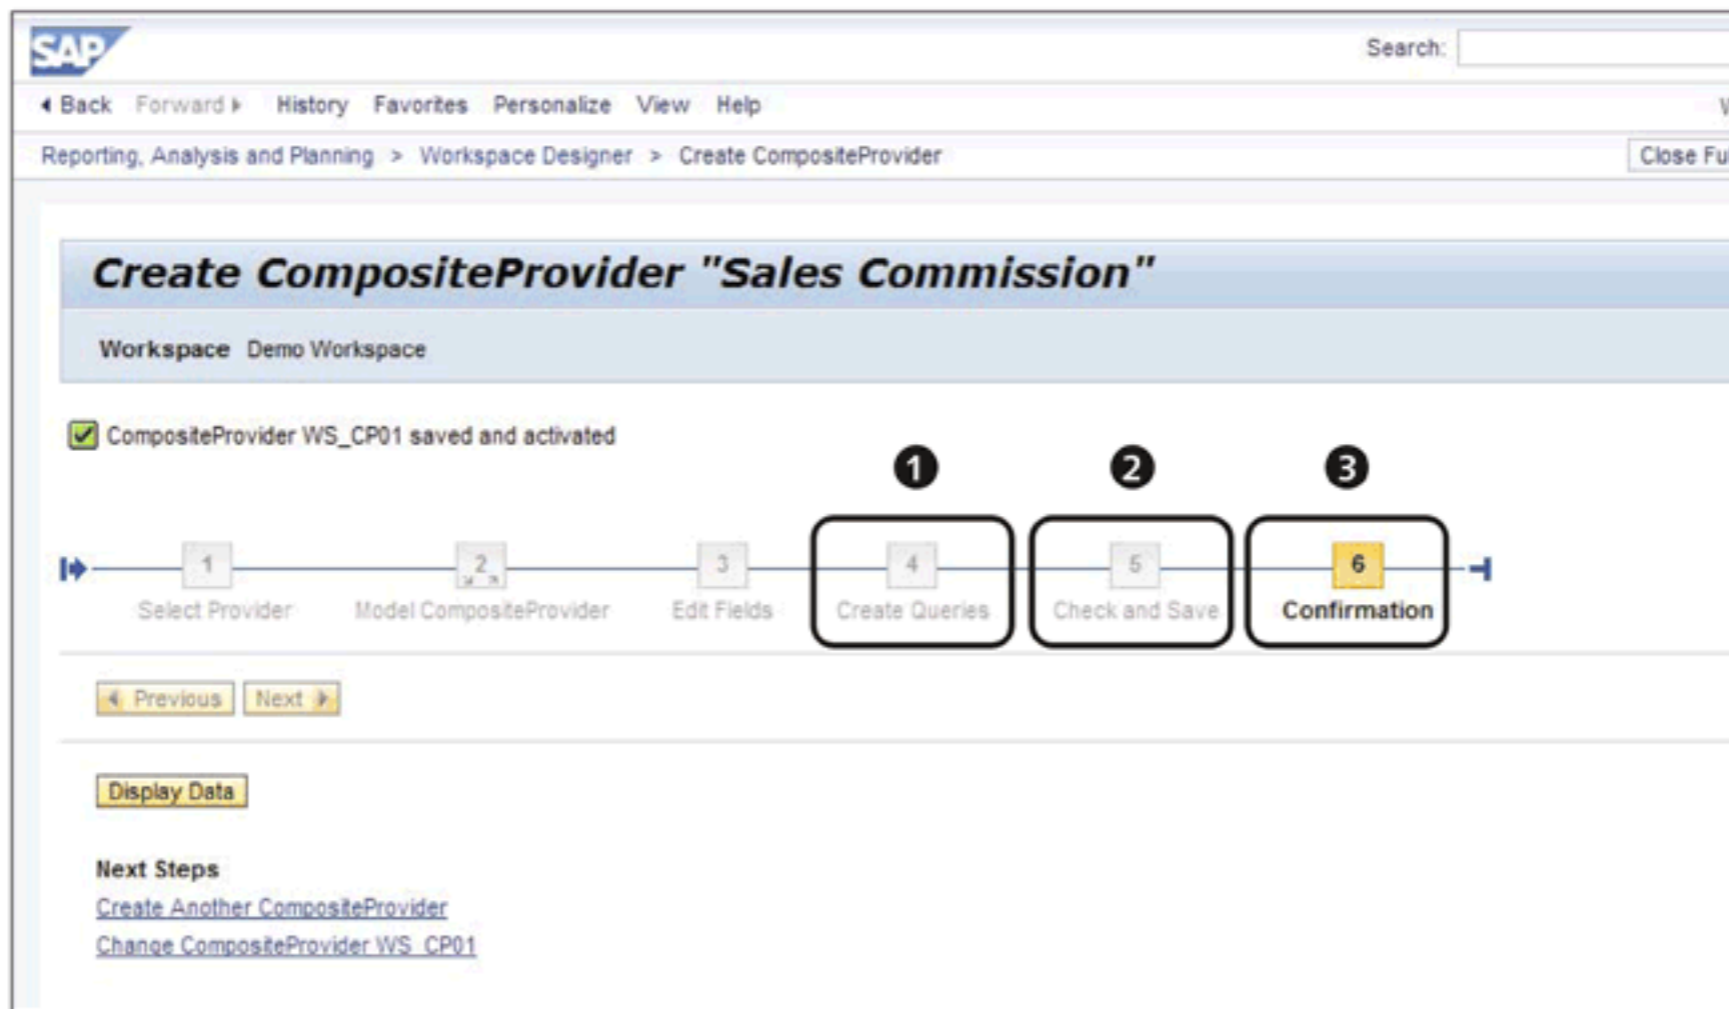
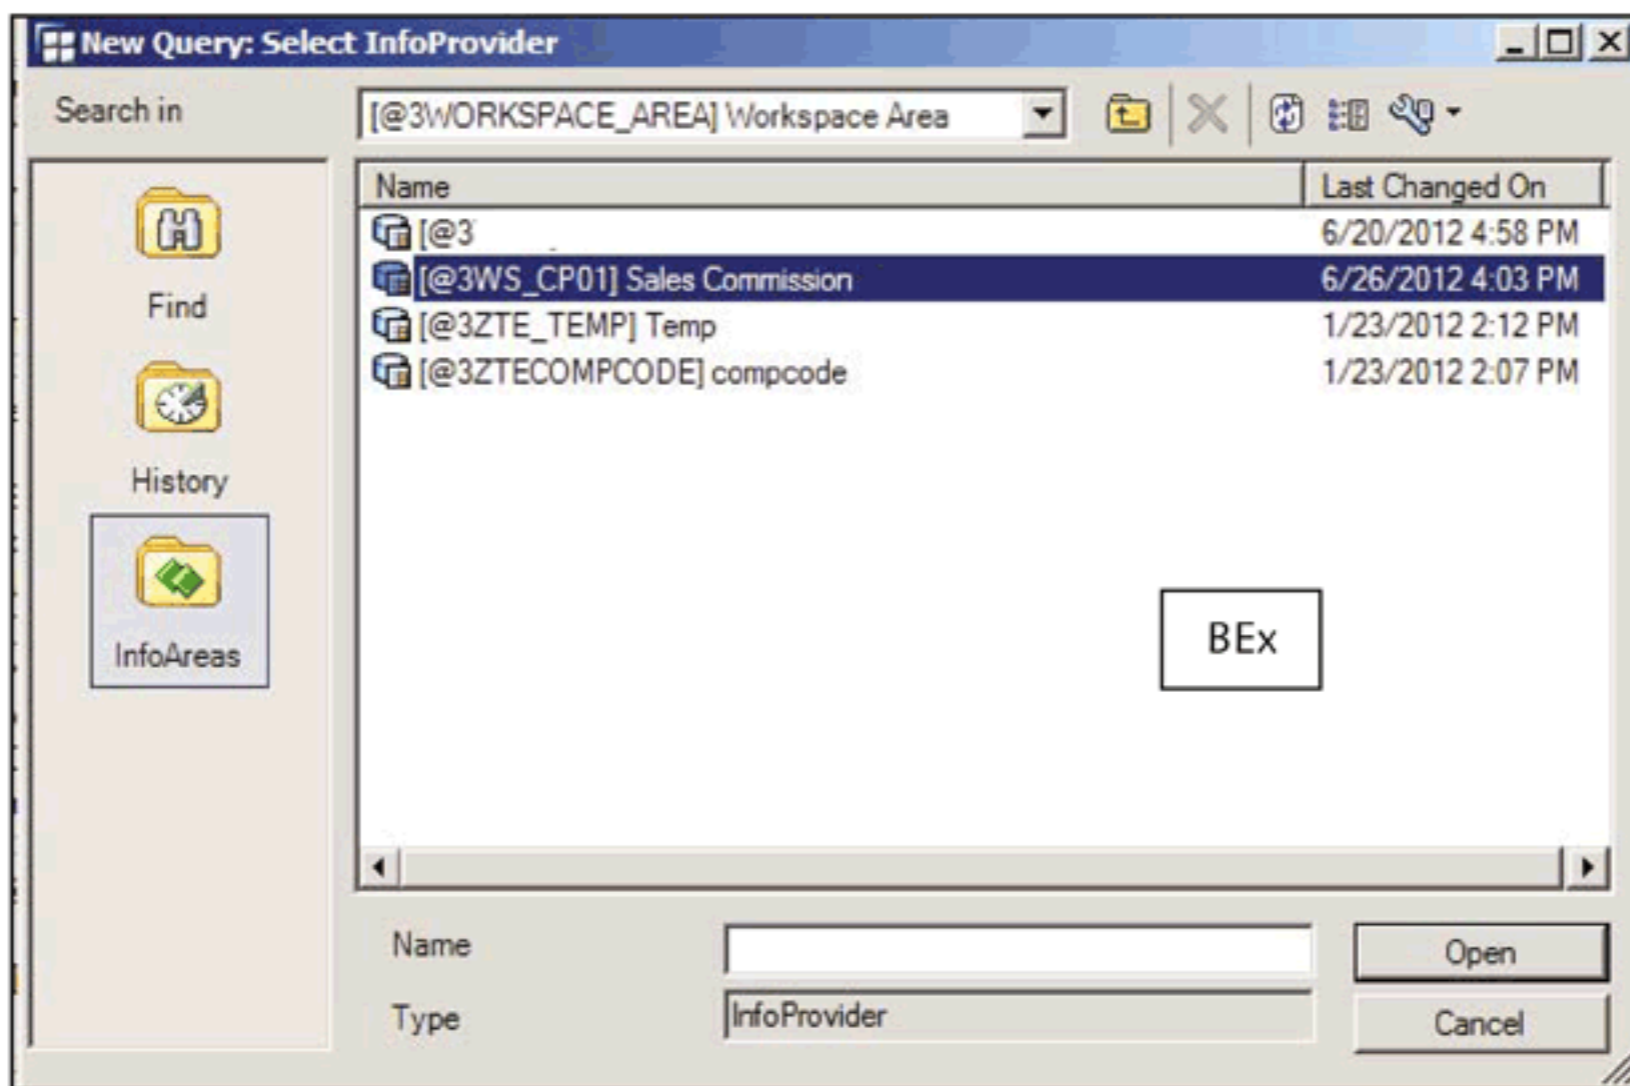
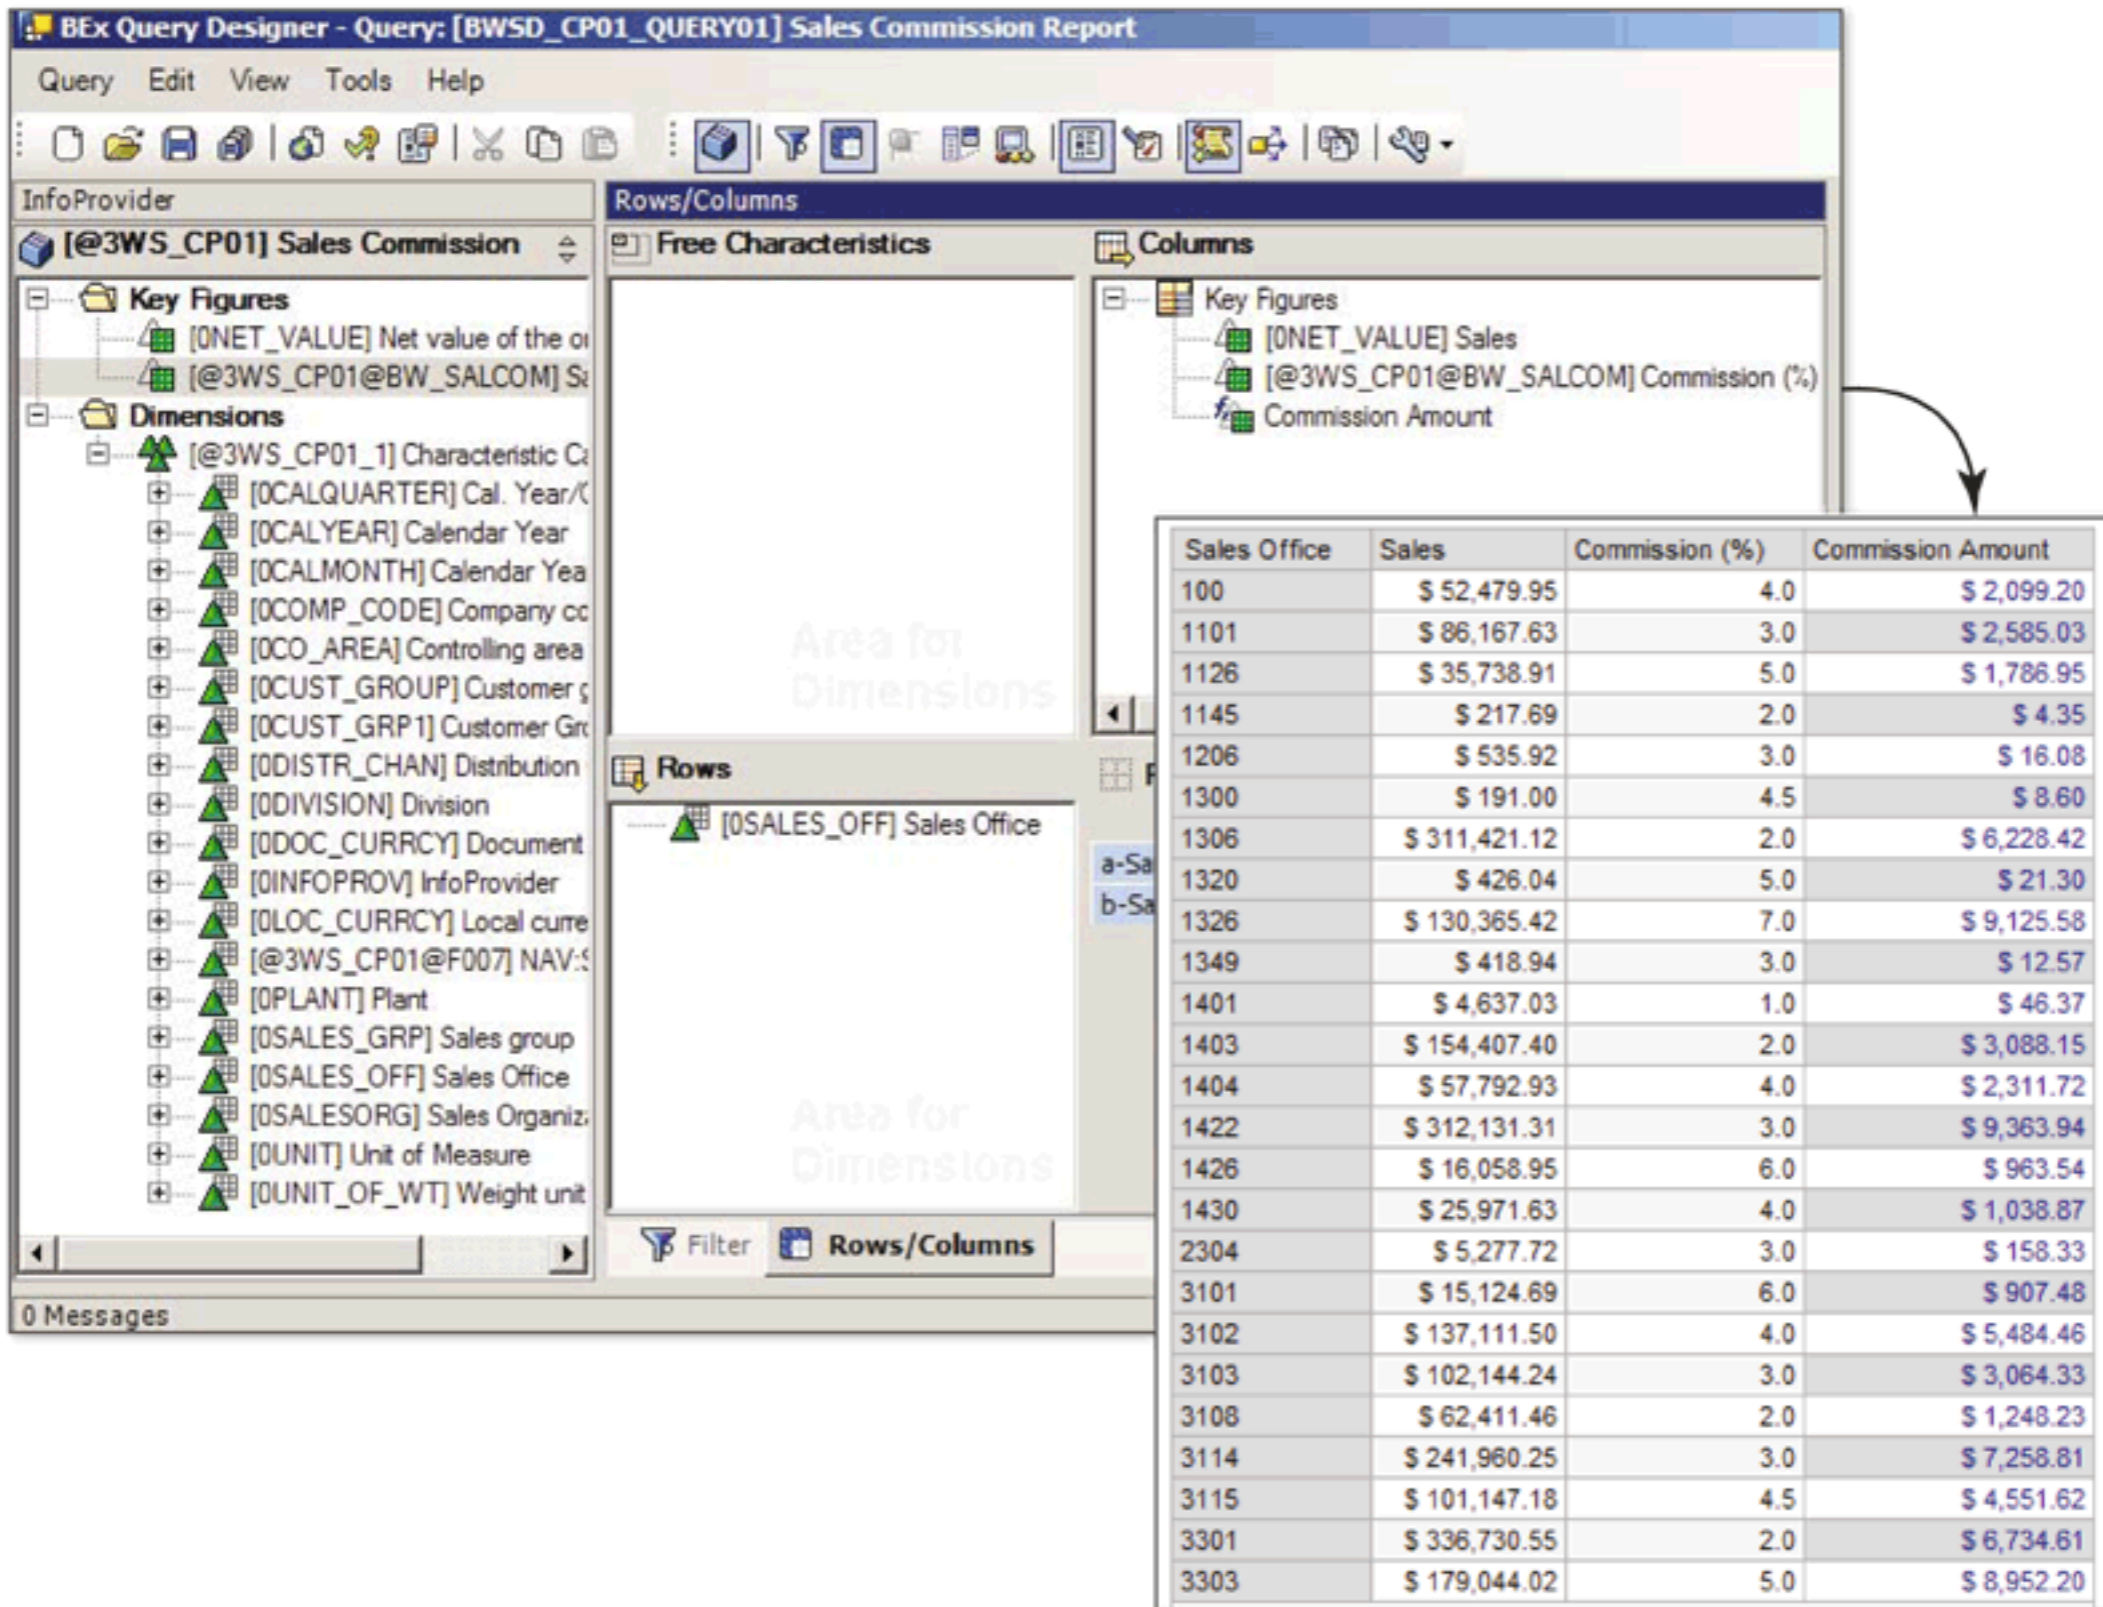

Figure 10.81 Save the Composite Provider
Figure 10.82 Composite Provider in BEx
Figure 10.83 Query Based on the Composite Provider
Once all of the fields are edited, you can choose to create queries on the COMPOSITE PROVIDER (❶ of Figure 10.81). Here you can define a standard query that will contain all of the characteristics and key figures from the composite provider. You can also select one of the existing queries from the assigned MultiProvider as a reference query. (This step is optional, because you can always create queries on the composite provider separately using BEx Query Designer.)
Finally, validate and save the definition of the COMPOSITE PROVIDER (❷ of Figure 10.81). You will see a confirmation that the definition is saved and activated successfully on the final screen (❸ of Figure 10.81). As mentioned earlier, this composite provider is now accessible as one of the InfoProviders on which you can define your queries from BEx Query Designer (Figure 10.82).
The composite providers are available under @@3WORKSPACE_AREA (WORKSPACE AREA), as shown in Figure 10.82. A query can now be created on this composite provider to address ABCD Corp.'s requirement to determine sales commission amount for sales offices (Figure 10.83).